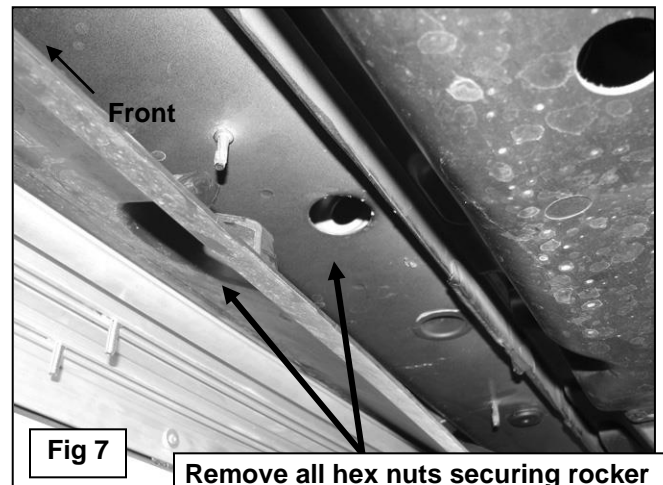

**Fig 5**
5. Next, select the Front Bracket. Slide the Bracket over the Bolt Plate and secure in place with (1) 12mm Flat Washer, (1) 12mm Lock Washer and (1) 12mm Hex Nut, **(Figure 5)**. Do not tighten.